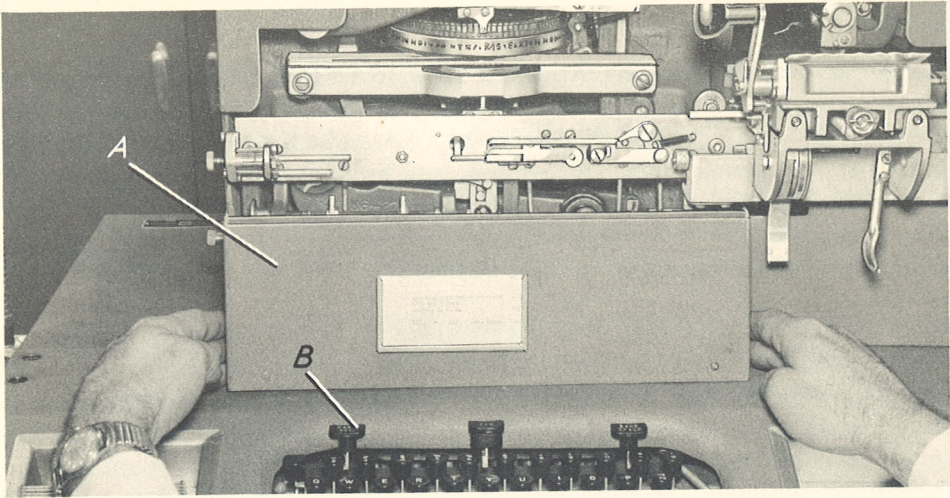

Figure 9
When changing from one type of plate material to another, it is important that the embossing pressure be set to the correct metal. The quick-change pressure device allows this to be done by the operator. To gain access to this device, the lower front cover 9A must be removed from the machine. Before removing this cover, depress the carriage release key 9B to move the carriage to the right. This is necessary to protect the line space indicator from damage. Grasp the lower ends of the cover with both hands and pull forward, as shown in Figure 9.